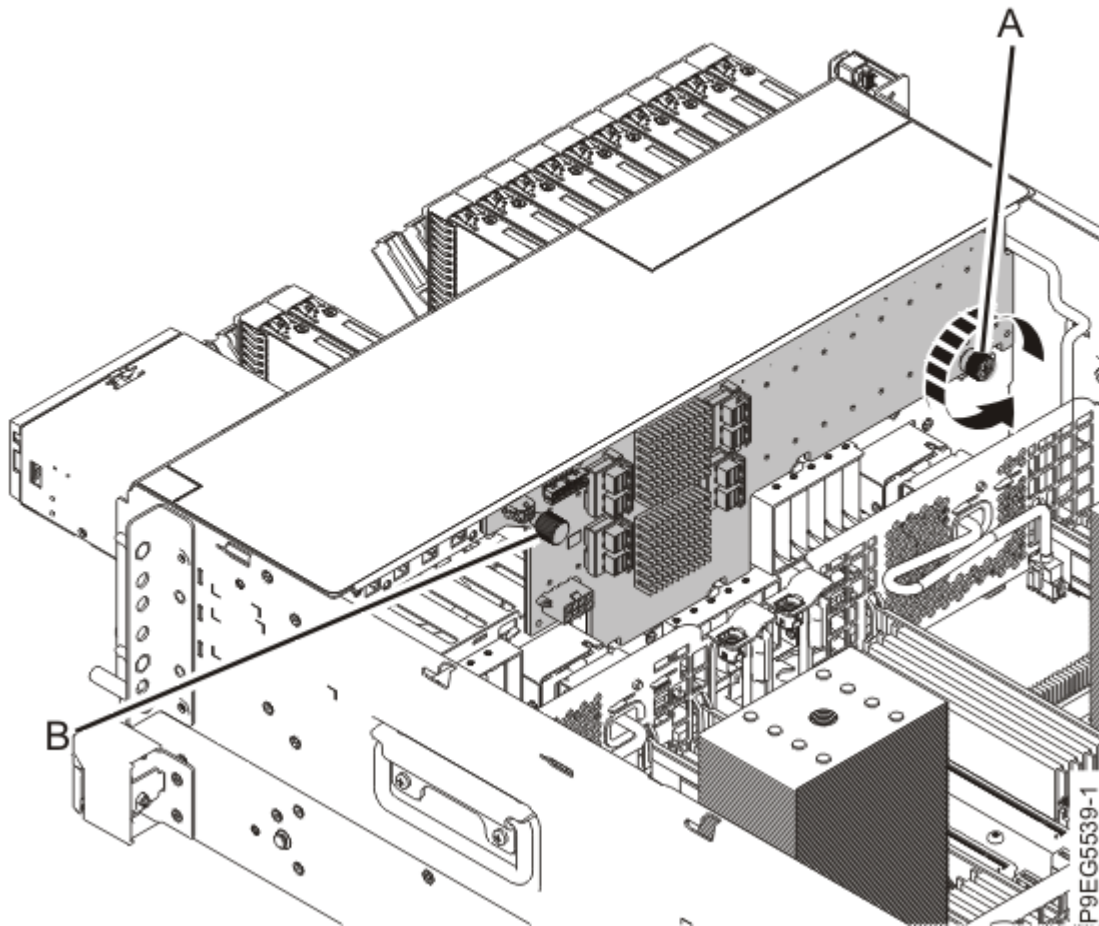

Figure 47. Loosening the disk drive backplane screw
9. Carefully unscrew the captive thumbscrew **(A)** of the disk drive backplane until fully loose as shown in Figure 47 on page 53.